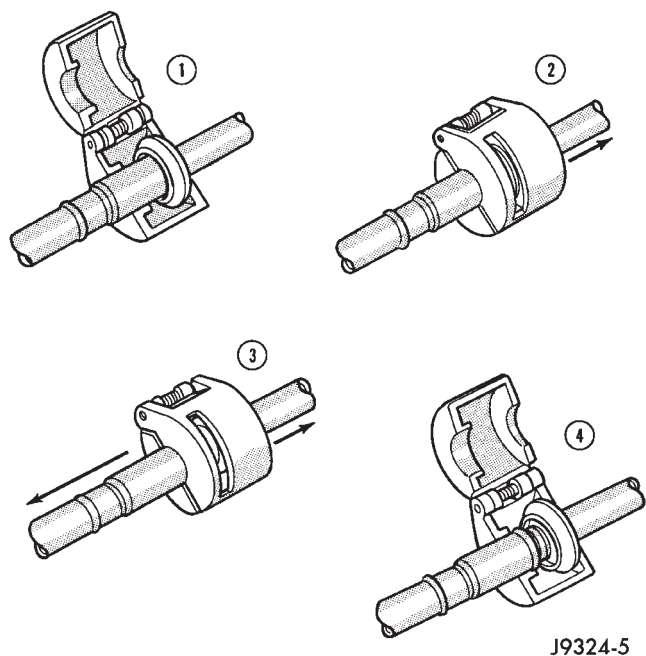

Fig. 14 Refrigerant Line Spring-Lock Coupler Disconnect
(1) Recover the refrigerant from the refrigerant system. See Refrigerant Recovery in this group for the procedures.
(2) Remove the secondary clip from the spring-lock coupler.
(3) Fit the proper size A/C line disconnect tool (Special Tool Kit 7193) over the spring-lock coupler cage (Fig. 14).